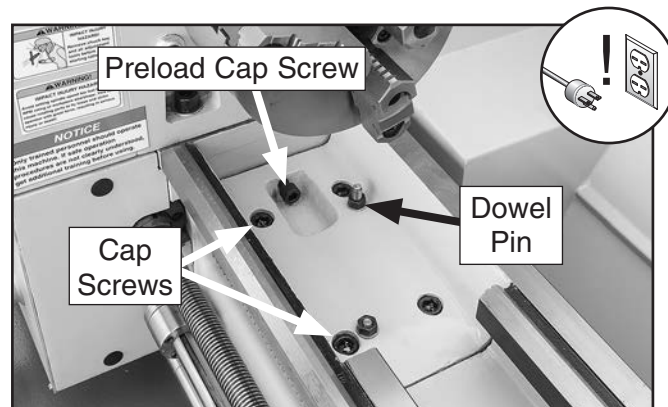

Figure 146. Gap retaining fasteners.
2. Remove four cap screws that secure gap to bed (see **Figure 146**).
3. Tighten dowel-pin jack nut (see **Figure 146**) to draw pins from gap.
4. Loosen preload cap screw (see **Figure 146**) a few turns until it no longer contacts headstock.